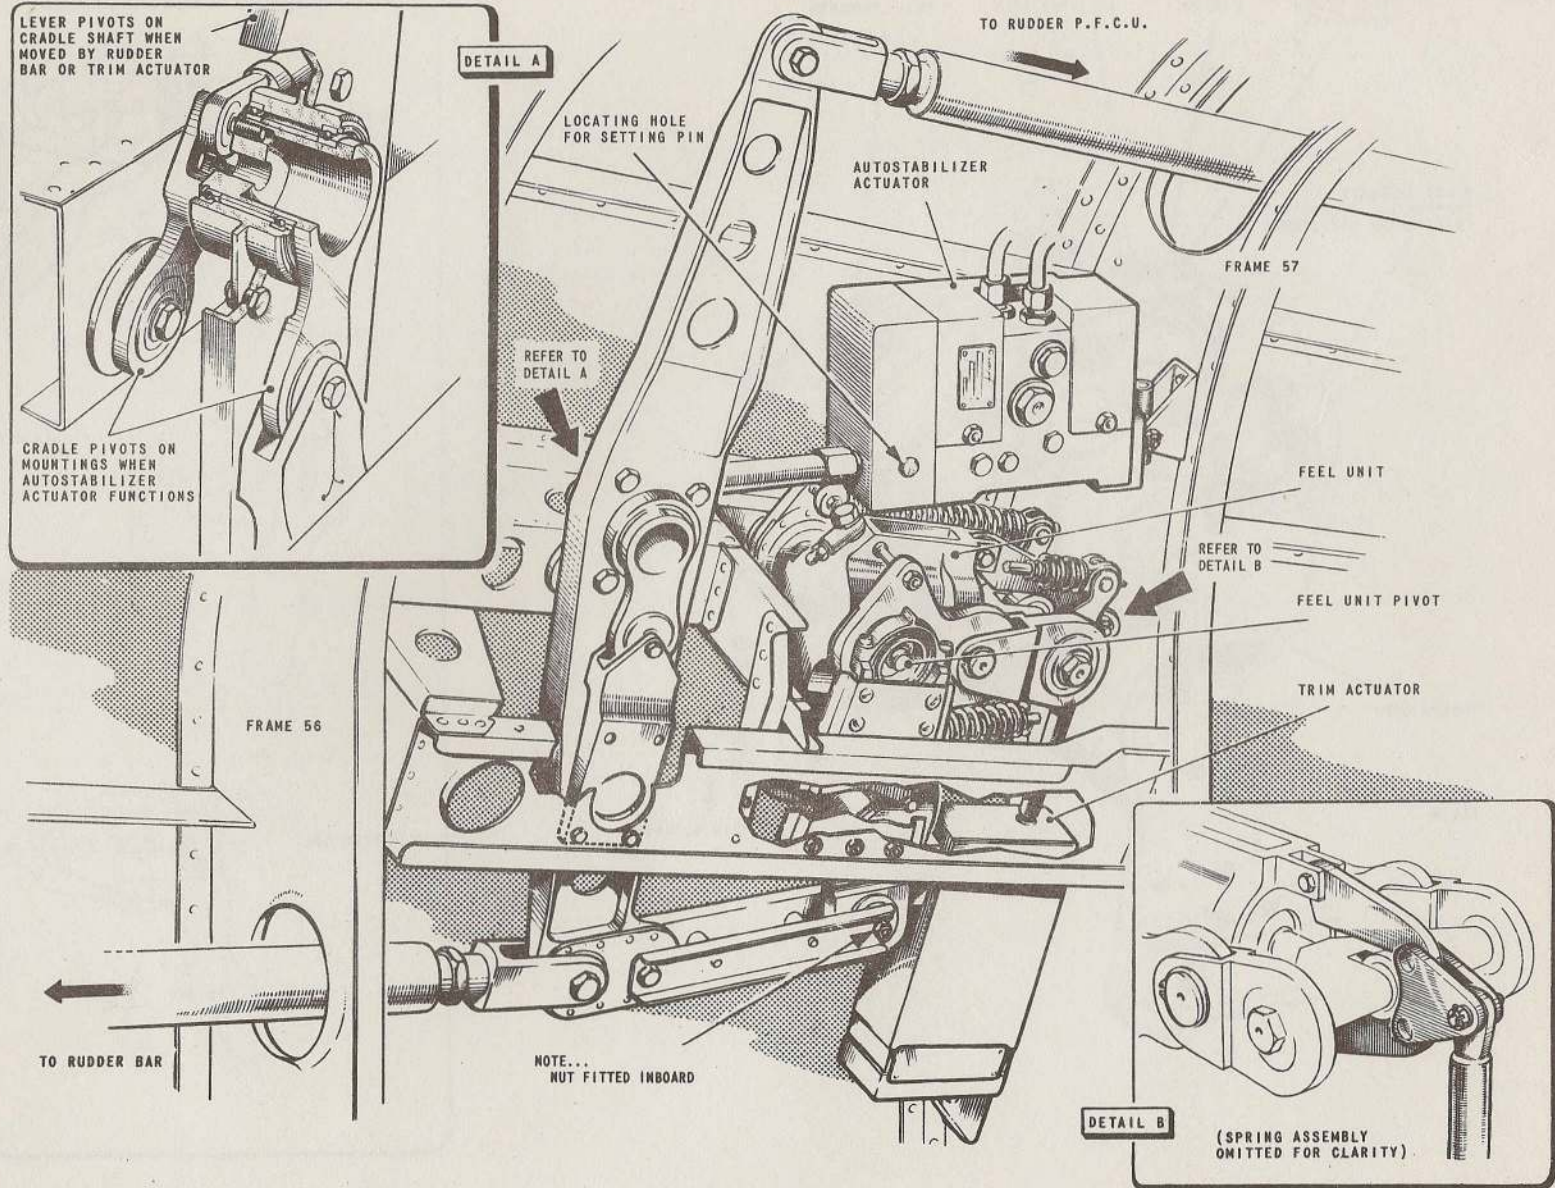

FIG. 3. FEEL, TRIM AND AUTOSTABILIZER - ACTUATOR INTERCONNECTION
4. A sense of feel is primarily produced by a hydraulic feel unit linked into the control run (*fig. 3*) to impose loading on the rudder bar. The feel unit is subjected to metered hydraulic pressure from the feel simulator control unit (*Chap. 6*). As this pressure varies relative to the speed and altitude of the aircraft, so the feel unit imposes a varying feel sense on the rudder bar.
the feel unit (*fig.3*) which acts as a cranked lever. The interconnection of the feel unit with the vertical lever, forward of frame 57, causes the control run to the rudder bar, and to the rudder control unit, to be moved.
#### Feel, trim, and autostabilizer-actuator interconnection (*fig.3*).
(4) Remove the hydraulic system hand-pump handle from its stowage in the port wheel well, fit it to the pump (access panel 79P) and operate the pump to provide pressure for centring the actuator.
(5) Switch OFF the master switch on the control unit, and the instrument master switch.
(6) Check for centre position, using the setting pin through the hole in the body of the actuator (fig.3). If the pin will not enter the actuator is un-serviceable.